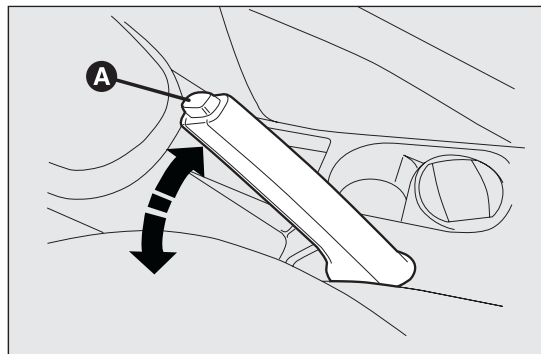

fig. 136
- slightly lift the lever and press release button A fig. 136;